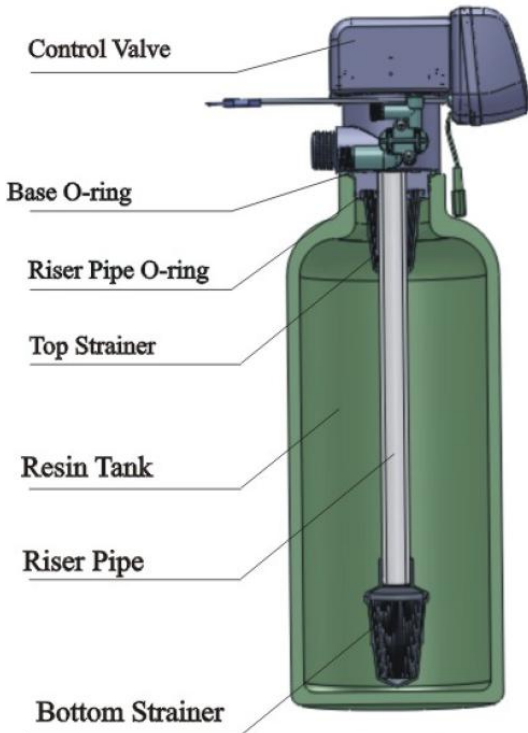

Figure1-1
① Install control valve
a. As the Figure 1-1 shows, select the riser pipe with 26.7mm OD, glue the riser pipe to the bottom strainer and put it into the resin tank, cut off the exceeding tube out of tank top opening and make the tube exterior rounded.